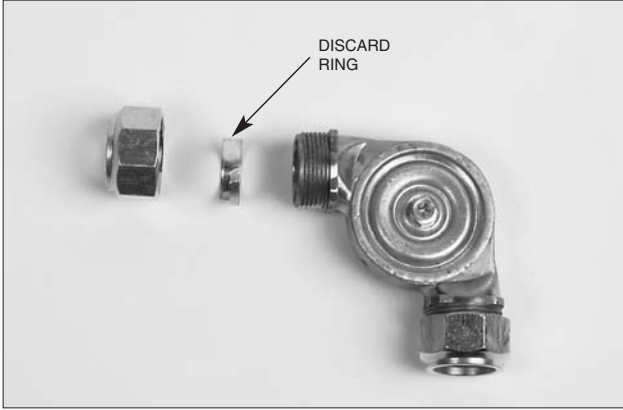

Figure 4-48
1. Unscrew the nut from pulley elbow, pulley tee, or EMT conduit connector and remove the compression ring. Discard ring. See **Figure 4-48**.